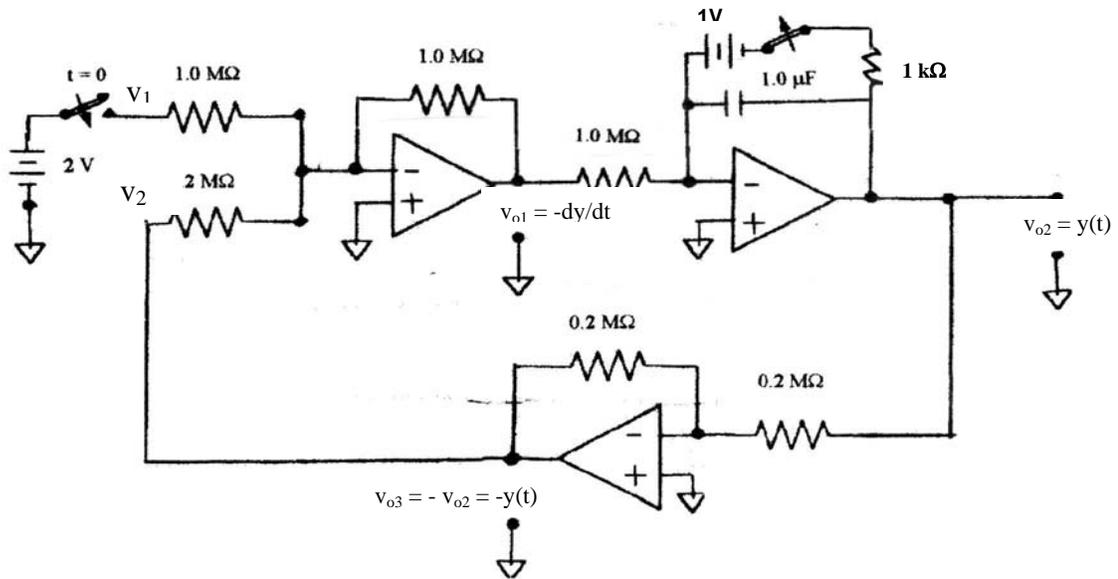

Figure 9.13 Analog Computer Simulation Circuit for a First Order System Using Three Operational Amplifiers.
Figure 9.13 shows one of many possible op amp circuits that can be used to simulate the differential equation given in Equation (9.9) above. Note that three op amps are used: one as a summing amplifier, one as an integrator, and one as an inverting amplifier. Also, switches and DC voltages, shown as batteries, are included in the circuit in order to apply bias voltages representing (1) the initial condition of $y(0) = -1$ foot ($v_{o2}(0) = -1V$) to the feedback capacitor during "reset", i.e., $t < 0$, and (2) the step input of 2 feet ($v_1 = 2V$) to the input of the integrator during "operation", i.e., $t \geq 0$.
The analog computer simulation shown in Figure 9.13 was obtained as follows. First, the output of the integrator was chosen to represent the displacement, i.e., $v_{o2} = y(t)$. Choosing $R_i = 1$ MΩ and $C = 1$ μF so that $R_i C = 1$ second, Equation (9.5) implies that
Letting $R_f = 1 \text{ M}\Omega$, $v_1 = +2\text{V}$, $v_2 = -v_{o2}$, and equating terms in Equations (9.12) and (9.13), we get $R_1 = 1 \text{ M}\Omega$ and $R_2 = 0.2 \text{ M}\Omega$. Using an inverting amplifier with input and feedback resistances chosen as $0.2 \text{ M}\Omega$ each to obtain $v_{o3} = -v_{o2}$, we get the analog computer simulation of the mechanical system shown in Figure 9.13.
Comparing Figures 9.13 and 9.15, it is clear that the number of op amp integrators needed is equal to the order of the differential equation, but the number of inverting amplifiers needed is somewhat arbitrary.